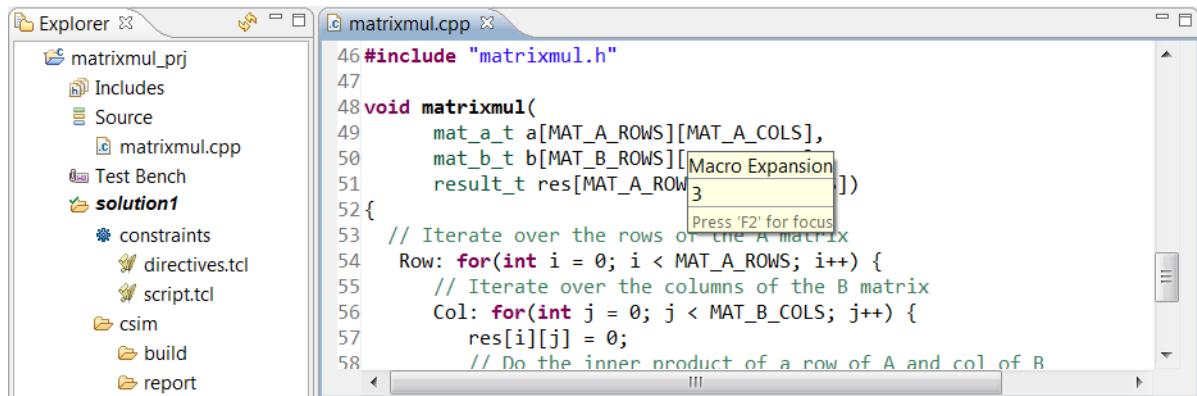

Figure 7-4: Source Code for the Matrix Multiplier
5. Expand the **Sources** folder in the **Explorer** pane and double-click `matrixmul.cpp` to view the source code (Figure 7-4).
Scroll down the file to see that the source code has two input arrays, a and b, and output array res. Hold the mouse over the macros (as shown in Figure 7-4) to see that each is three-by-three for a total of nine elements.